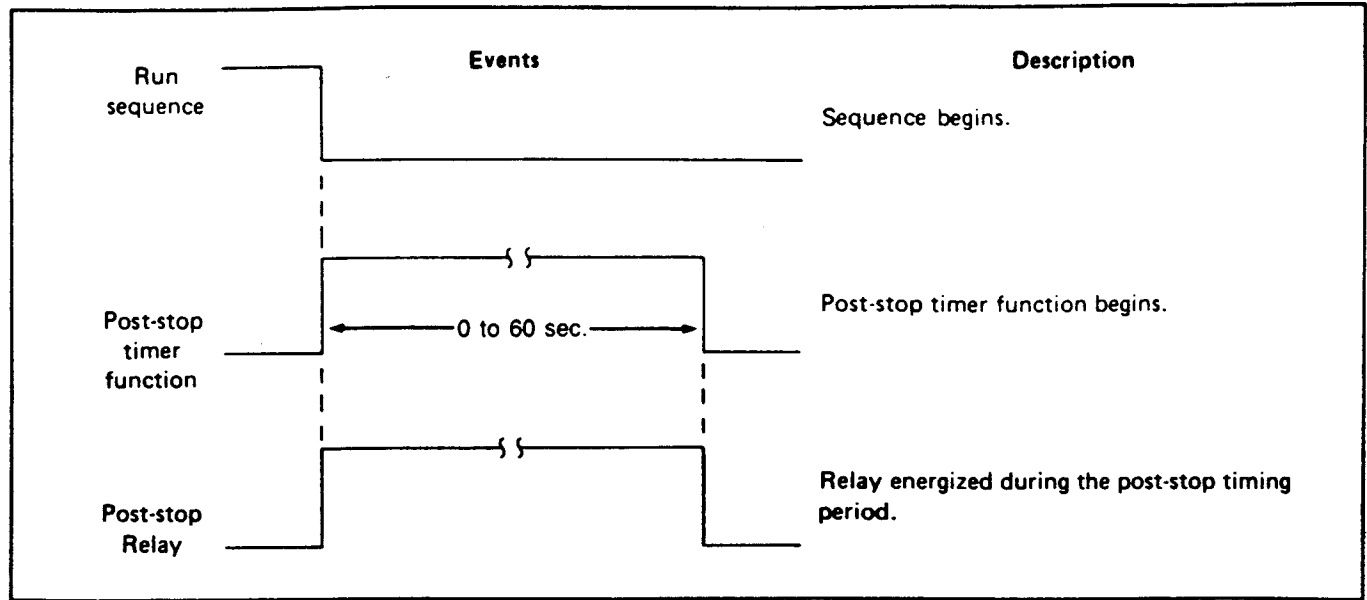

Figure 6.8 — Post-stop Events Diagram
6.22 Post-stop Timer — The post-stop timer setpoint function, initiated immediately after the stop sequence is complete, can be used to disable auxiliary functions after the sequence. (See Figure 6.8.) For example, cooling pumps and other motors may be controlled. In process control, the next step in the process may be disabled.